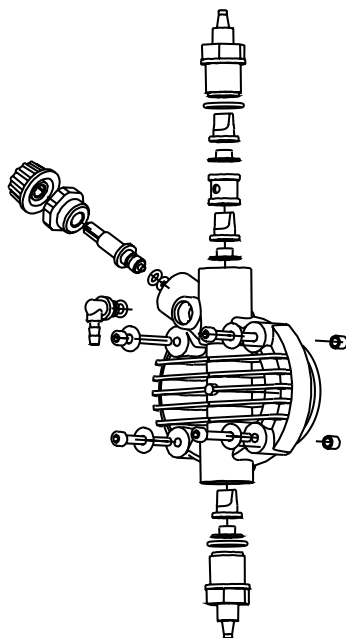

Fig. 10
- the additive concentration in the pipework; a reduction of this concentration could be caused by the wearing of the valves, in which case they need to be replaced (Fig. 10) or by the clogging of the filter which then has to be cleaned as in point 3 here below.
This operation can also be done with the pump disconnected from the plant by turning the pump upside-down for 15 to 30 seconds and without connecting the hose to the nipples; if impossible, dismount and remount the pump head (Fig. 10) using the four mounting screws.
As the system is quite robust there are no apparent mechanical problems. Occasionally there might be a loss of liquid from the nipple because the tube nut has loosened, or more simply the discharge tubing-has broken. Very rarely there may be losses caused by the breakage of the membrane, or by the membrane seals in which case they have to be replaced by disassembling the four screws of the pump head (fig. 10), when re-mounting the pump head ensure that the screws are replaced properly, along with "O" ring. After repair, the metering pump will need to be cleaned of additive residues which can damage the pump casing.